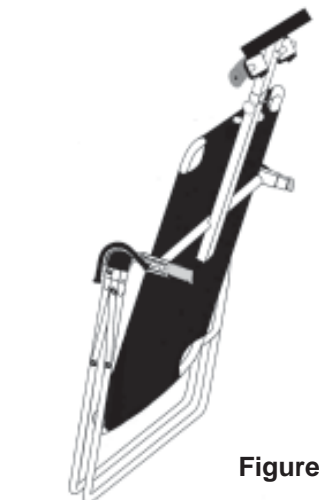

Figure 12
- The legs of the A-frame base may then be folded together for compact storage. (See Figure 12). **WARNING: This operation may pinch fingers if not done slowly and carefully.**